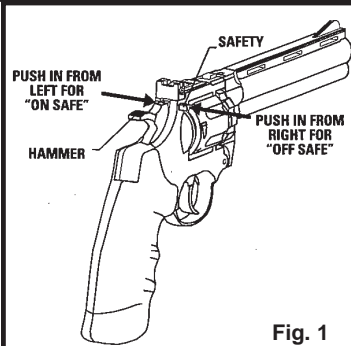

Fig. 1
- Locate the safety below the rear sight. (Fig. 1) Pull the hammer back slightly and with your other hand, push the safety from the left side all the way in. The safety is not "On Safe" unless it is pushed all the way in and the RED mark on the left side of the safety is NOT showing. Like all mechanical devices, an airgun safety can fail. Even when the safety is "On Safe", you should continue to handle the airgun safely. NEVER point the airgun at any person. NEVER point the airgun at anything you do not intend to shoot.